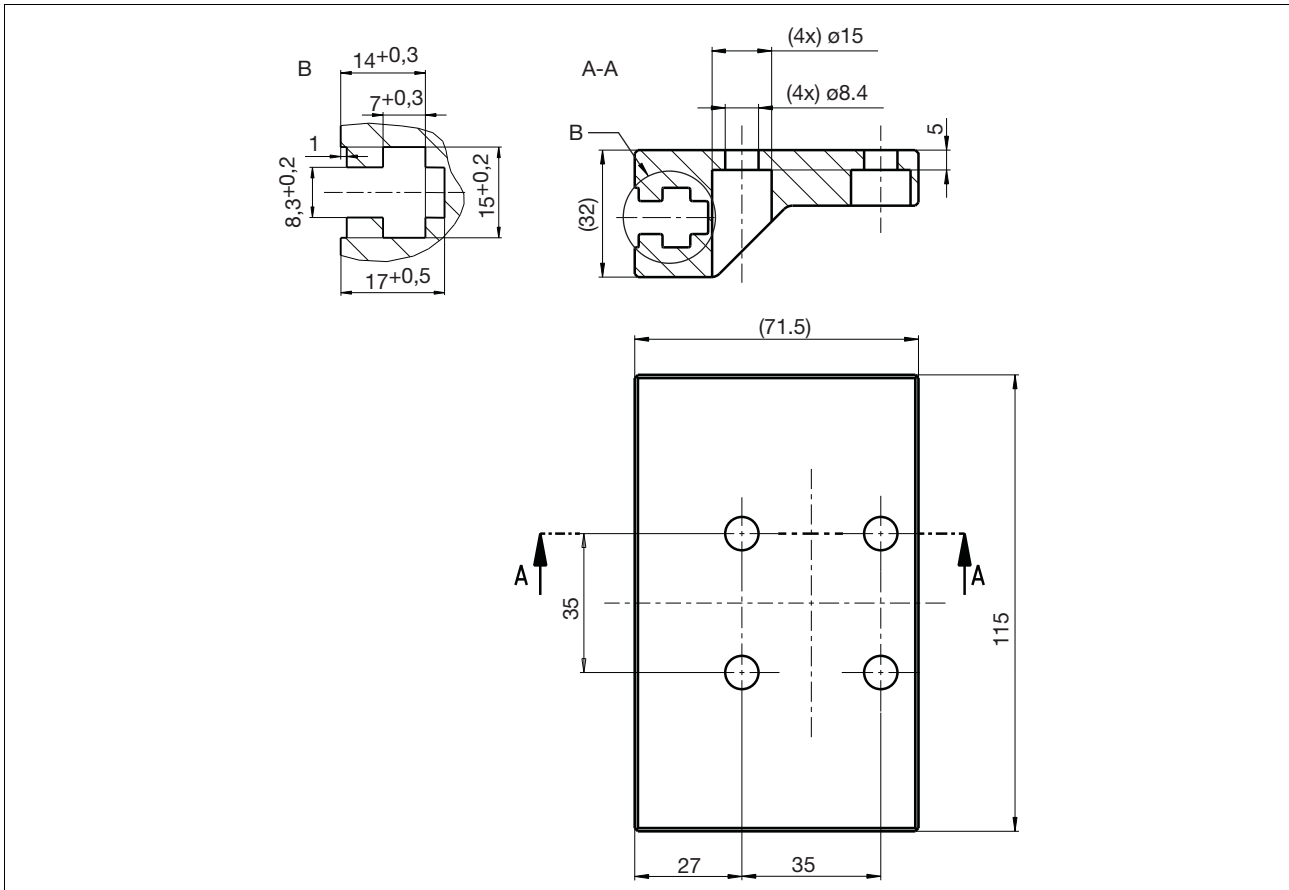

Fig. 5-1: Dimensions of adapter plate with groove, dimensions in mm
- ▶ The fastening kit consists of an adapter plate and adjustment plate with a slot nut. The bracket on the upper die must have a corresponding groove in which to insert the slot nut (see Fig. 5-1).